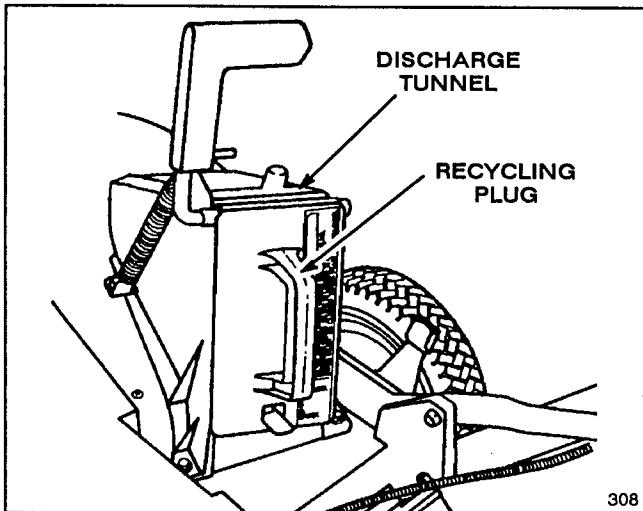

Figure 24
1. **Rear Bagging Kit (Model No. 59174 for self-propelled models, Model No. 59179 for hand push models)**—Install discharge tunnel and rear mounting grass bag to convert Recycler to a rear bagging mower (Fig. 24). Includes Recycling Plug.